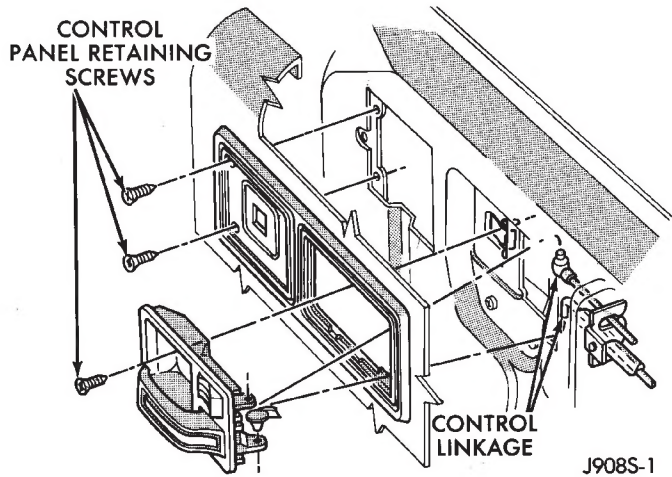
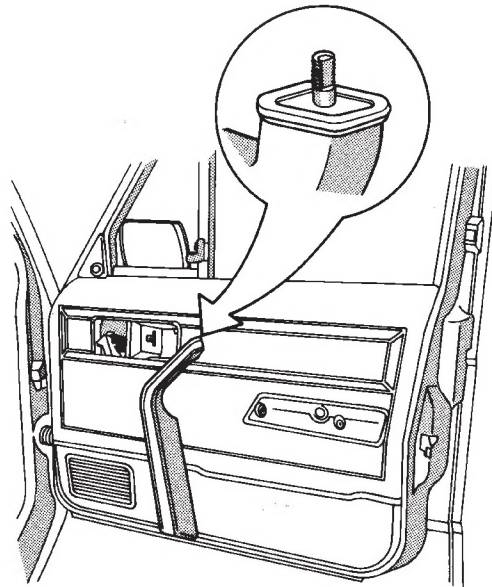

Fig. 1 Power Window/Lock Control Panel Remove/Install
Fig. 3 Armrest Retainer Clip
(1) Remove the interior door latch release assembly and control panel retaining screws (Fig. 1).
(2) Disconnect the control linkage and the wire harness connector.
(3) Remove the latch release and control panel assembly.
(4) Remove the armrest lower retaining screws.
(5) Swing the armrest downward to a vertical position. This is necessary to disconnect the armrest from the upper retainer clip (Fig. 3).